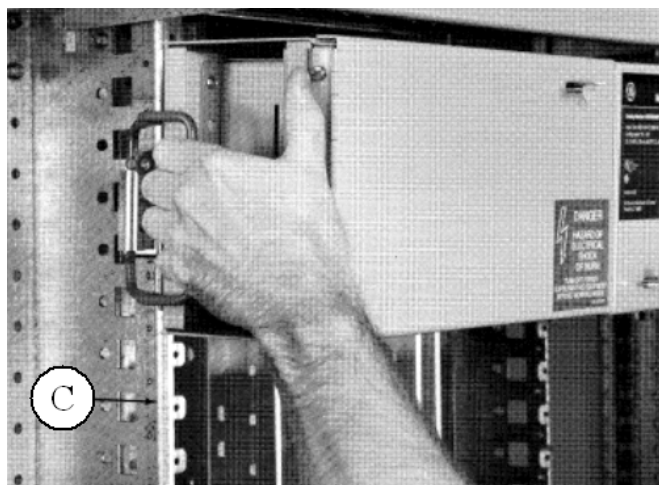

Figure 8. Aligning the Voltage Module.
Then line up the guides on both ends of the Voltage Module to notches in the Spectra® Series Switchboard interior vertical rails (C) as shown in Figure 8.